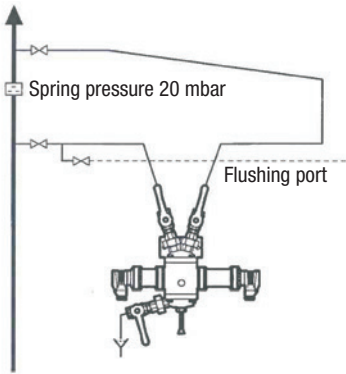

Fig. 7
- Fig. 7** Installation example of sensor installed in a bypass of a product line with upward flow.